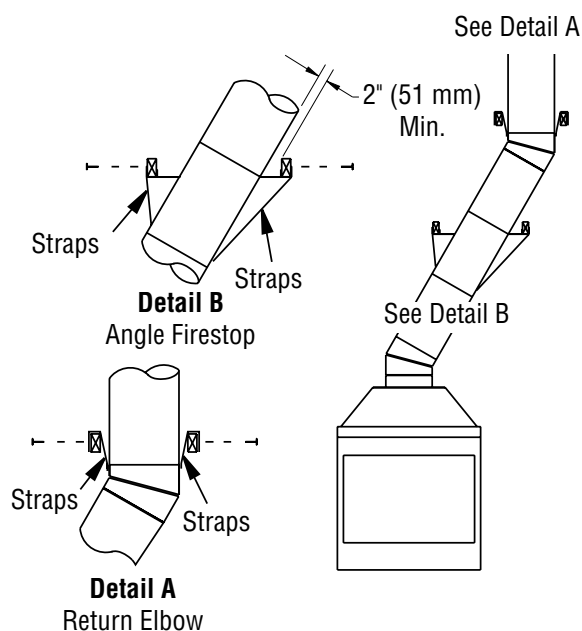

Figure 11 - Ceiling Support Pipe 12S-12DM
2. Chimney weight above offset rests on return elbow. Straps must be securely nailed to rafters or joists (see Figure 11, details A and B).